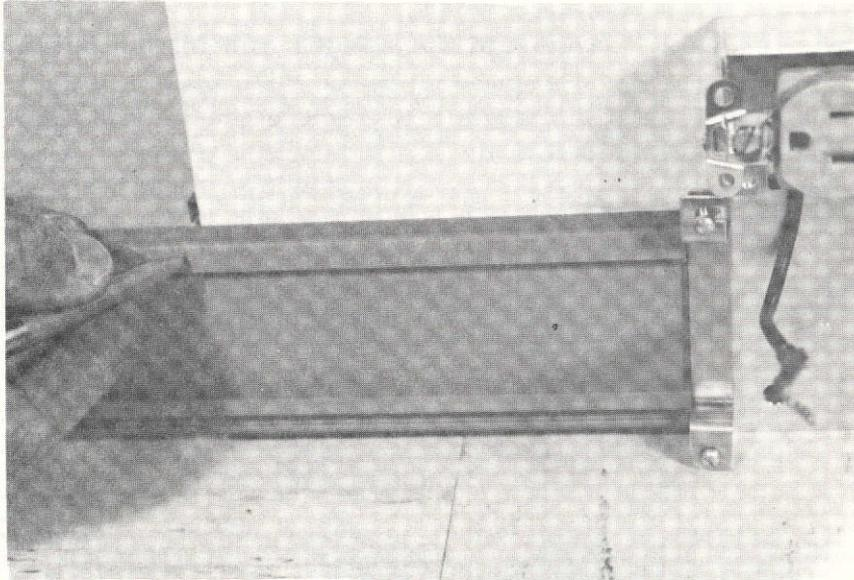

Figure 3. Marking Back Channel to Length
2. Select a length of back channel placing it all the way in the corner or against the receptacle box as in Figure 3 and mark for cutting to final length. Marking should be done at the edge of the receptacle boxes and at the outside corners.